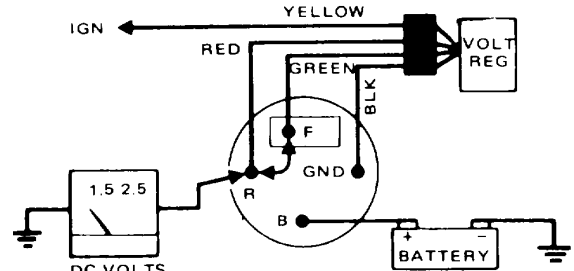

FIG. 4. Ignition On - Engine Not Running
**TEST 2-- IGNITION ON - ENGINE NOT RUNNING (Refer to Figure 4)**